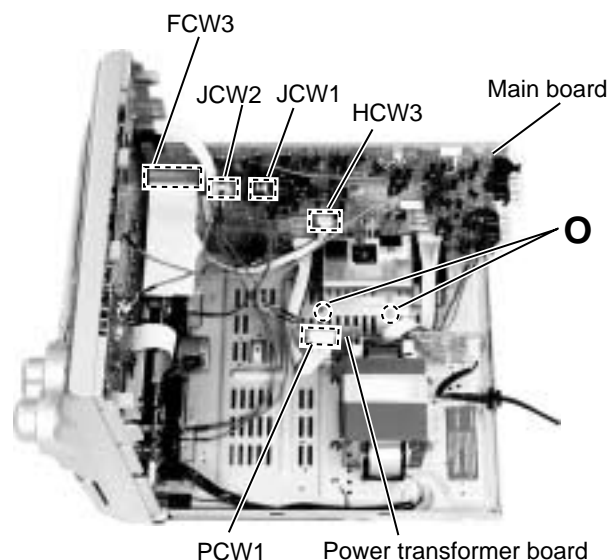

Fig.15
■ Removing the main Board (See Fig. 15)